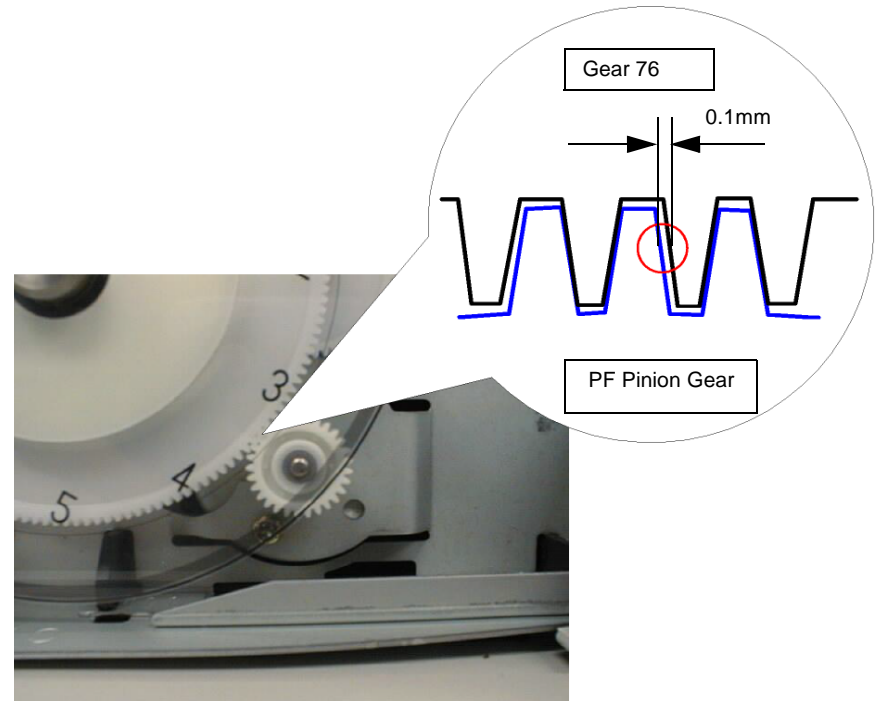

Figure 5-7. Check the backlash value
7. In case the above adjustment procedural is completed, check the backlash value between the Gear 76 and the pinion gear of the PF motor by using Micro scoop. Refer to the Figure 5-7.